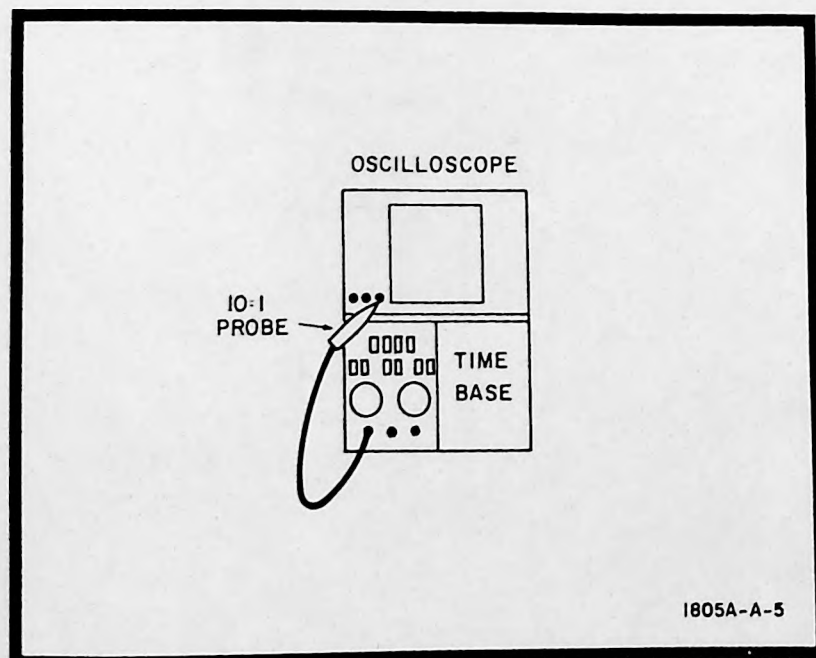

Figure 5-1. Polarity Check Test Setup
c. Apply calibrator signal to channel A INPUT through 10:1 probe as shown in figure 5-1.